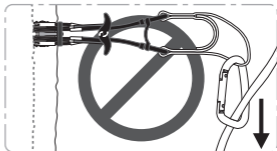

Figure 4
- Do not use the Totem Cam in shallow cracks, where the Totem Cam body can not be properly aligned with the expected load (*see figure 4*).
- Check if any of the springs are attempting to pass through the guide. This can result from a severe transversal load (**see figure 4**). In this case, manually pull down on the spring to separate it from the guide. Then release the spring.